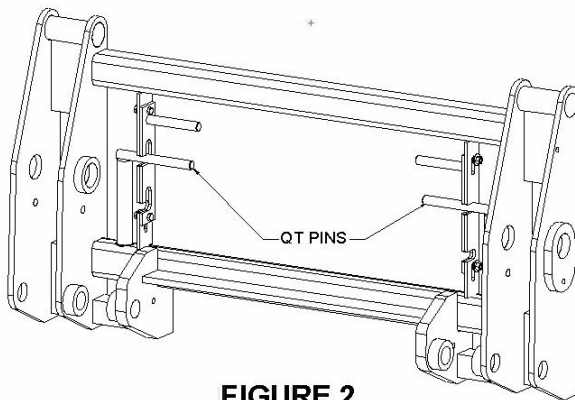

FIGURE 2.
STEP 2 The loader should have been dismantled (or assembled) on flat, level ground (see Figure 2).
STEP 2 Remove the stand legs from their stored position and place them in their dismount position. Slide the inner tubes down to the extended position and secure them with the 3/4" pins. See Fig. 2.
2. Rotate QT pins out of the lower notches, raise, and then rotate them into the upper notches of the sliding latches as shown in Figure 2.
2. When the QT frame is flat against the attachment, raise the sliding latches as shown in Figure 2.